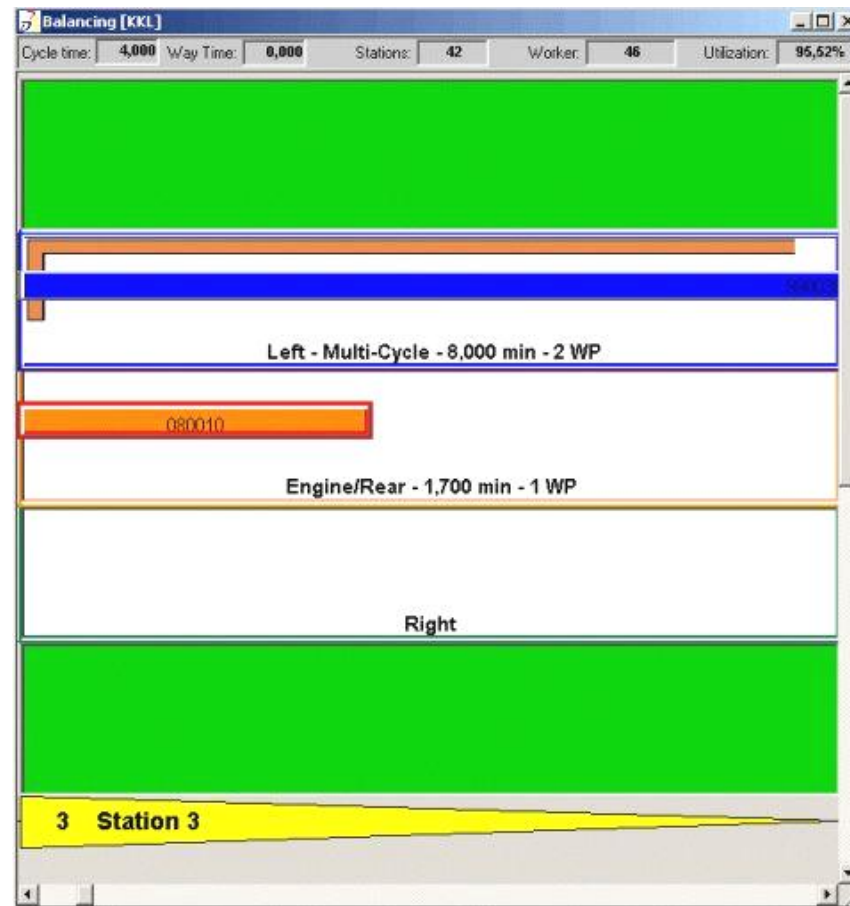
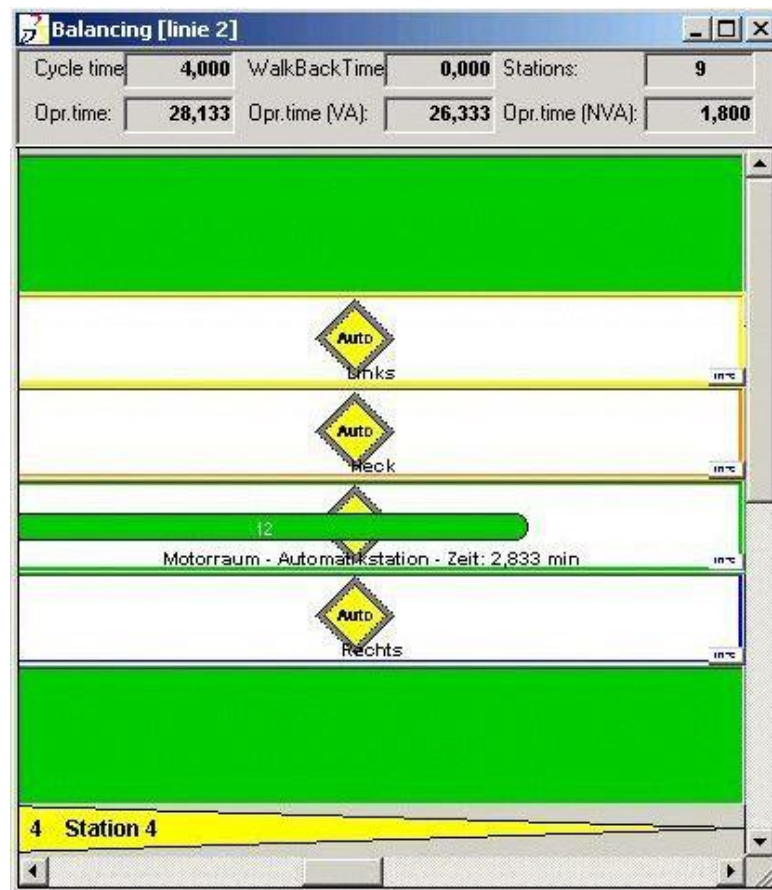

Figure 2: Example – Station Balancing Conveyor Display
Figure 3: Example – Automatic Station Display
- (3) Work area. *Please refer to the Figure 2.*
- (4) Status bar
All calculated stations, work positions, and assigned processes will be displayed in the Balancing view. Use this view to perform manual balancing. This means that you can assign processes to new work positions using drag and drop in this view. (Please refer to the Working with Automatic Line Balancing). There are two different kinds of stations: manual stations (Please refer to the Figure 2) and automatic stations (Please refer to the Figure 3). The Balancing view can be displayed either with or without the Material Area. Please refer to the Balancing Work Areas.
- The processes are displayed by the process number in the Balancing view. Processes can either be displayed by a rectangle (against a grey background as shown in the example) or by a rhomb. The display size depends on the duration of each process. The longer the process duration, the greater is the size of the process display. Processes with a station linkage are displayed by a rhomb. The process station linkage may refer to one or several stations. *Please refer to the Displaying Processes and Figure 2.*
Thus, the first station at conveyor 1 would be numbered **station number 1** whereas the first station at conveyor 2, according to the stations calculated for conveyor 1, would be numbered station number 10. As a conclusion, the last station of conveyor 1 would be numbered station number 9. *Please refer to the Figure 3 and Figure 8.*